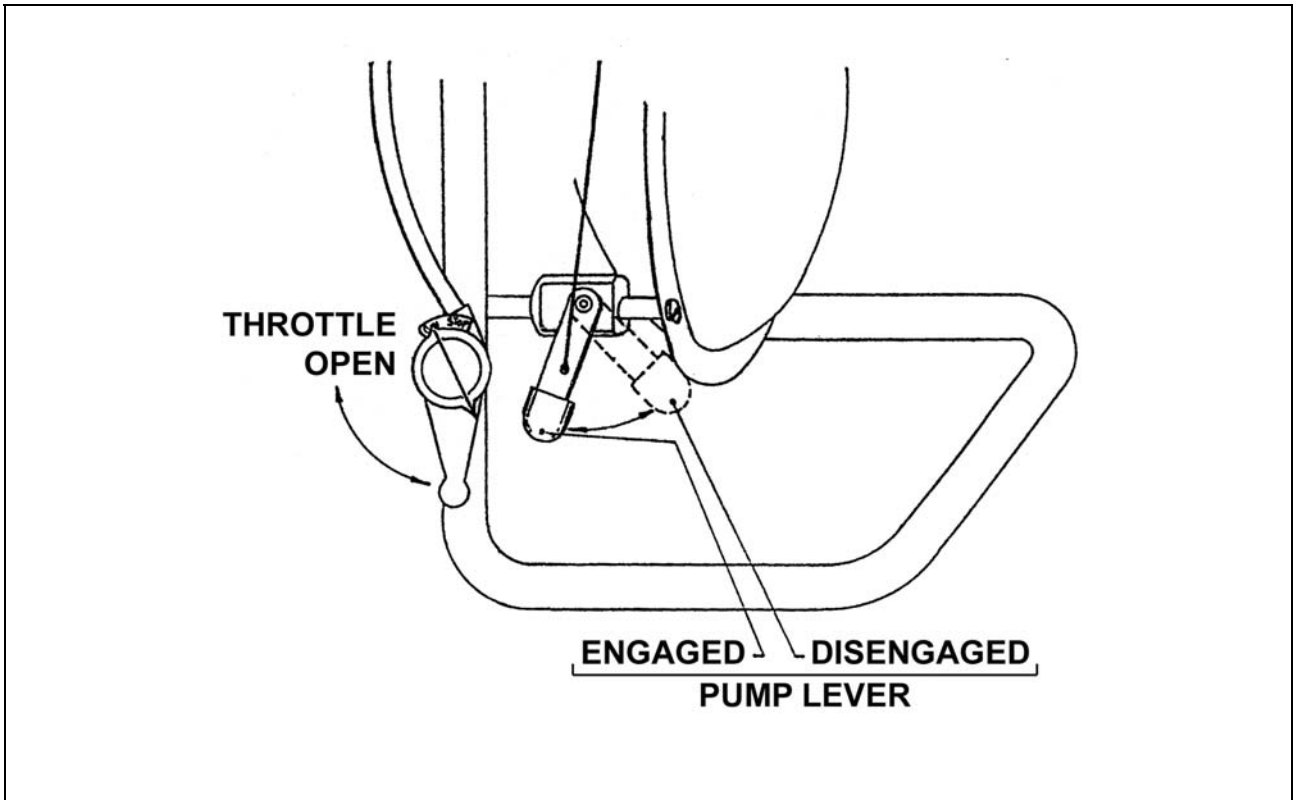

Fig. 2 – Controls for Throttle and Boost Pump
1. Before starting the sprayer, ensure that the boost pump lever is DISENGAGED (see Fig. 2).